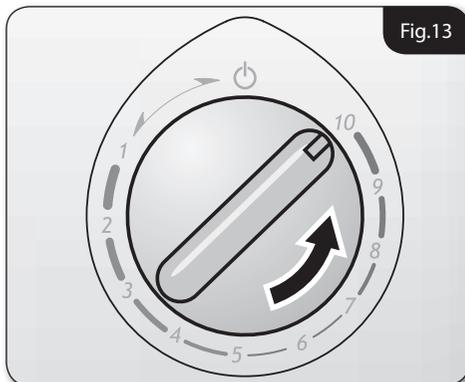

Fig.13
- Rotate the temperature control fully anti-clockwise to '10' – the minimum flow position (fig.13).